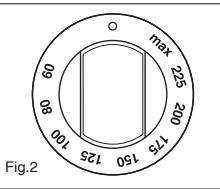

Fig.2
To activate the circuit, rotate the knob from 1 to 11 (Fig.2).
**Oven thermostat knob (fig. 2).**